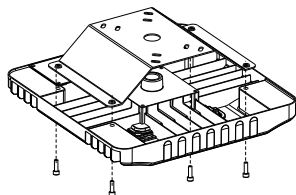

Figure 6
1. Fix the mounting bracket on the back of fixture by supplied screws. (Figure 6).